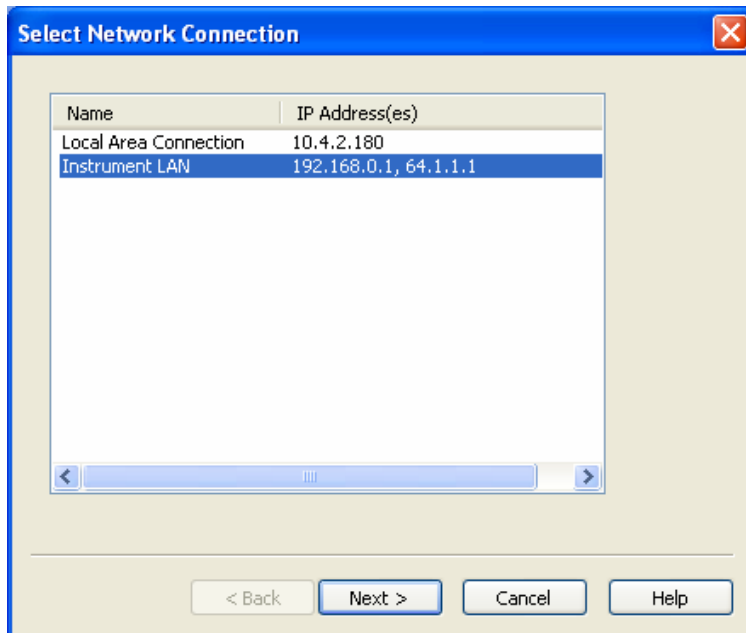

Figure 7: Select Network Connection Page
12. Select **Server > Configuration Wizard** from the menu. The Select Network Connection page appears (Figure 7). Confirm that the correct address, chosen in step 7 appears. The second IP address (64.1.1.1) is for Waters mass detectors and is automatically assigned, regardless of whether or not a Waters mass detector is connected to the acquisition server.